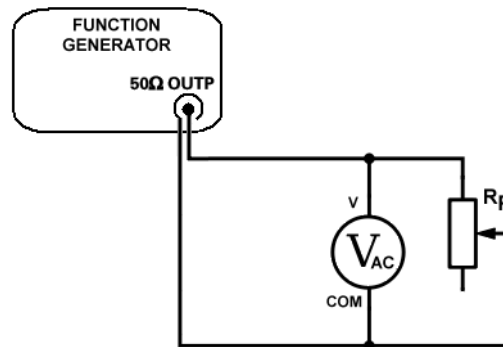

Figure 1.1 Measurement setup
1.2.1 First connect the analog output of the function generator with the multimeter (in voltage mode) using the BNC-to-banana wire. Turn the multimeter to AC voltage mode. (Use figure 1.1 but for now without the R_P potmeter!).
1.2.2 Connect the potmeter as the load of the function generator (see figure 1.1) while keeping the voltage meter connected (thus the generator, voltmeter and potmeter are parallel connected). Now change the potmeter's resistance until the voltage measured by the multimeter is half of the open circuit voltage. Do this with the best precision we can achieve. Write down the measured voltage.